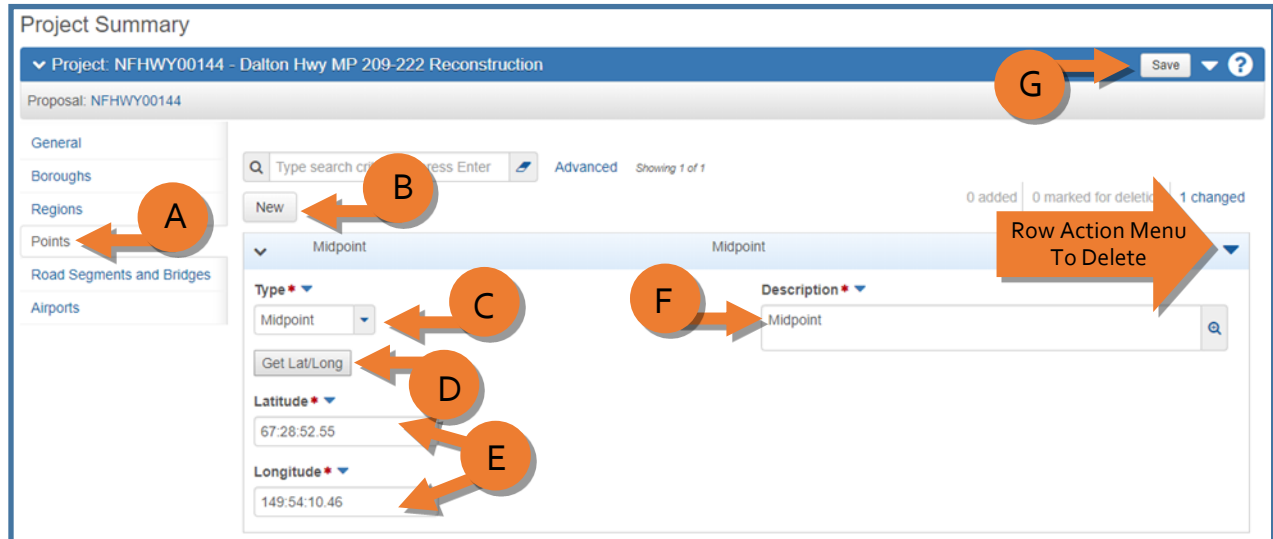

Figure 3.15
1. From the Project Summary component (*Figure 3.15*):
2. (A) Select the **Points** tab.
3. (B) Click the **<New>** button.
4. (C) In the **Type** dropdown list, select **Midpoint** or other type of point you want to add.
5. (D) Click the **<Get Lat/Long>** button.
2. Expand the **row actions menu** on the right side and select **Delete** (see Figure 3.15). The point record is marked for deletion and users may “undo”  the action until the user clicks **<Save>**.